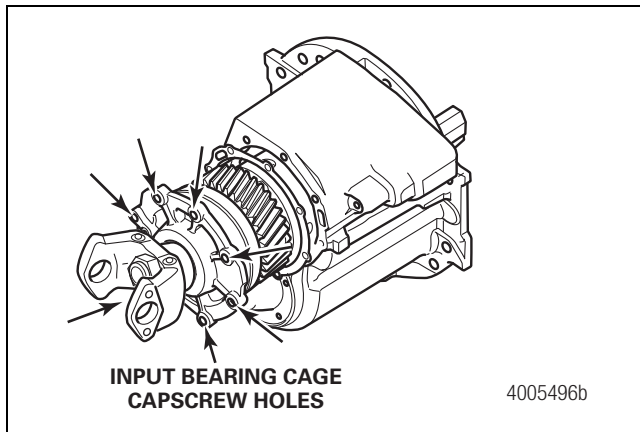

Figure 2
- Remove the seven input bearing cage capscrews. Figure 2.